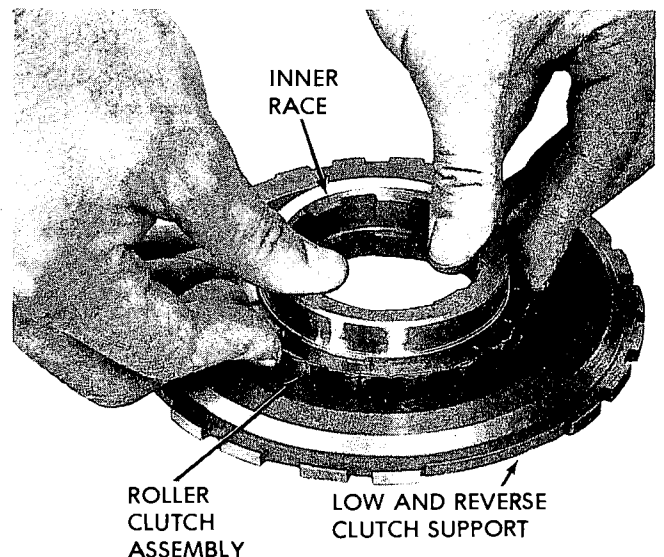

Figure 7C-131
3. Install low and reverse clutch to cam retaining ring. See Figure 7C-132.